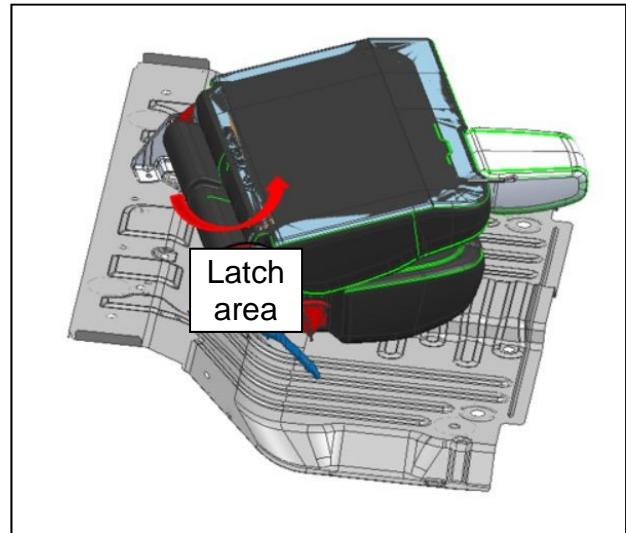

Figure 18
19. Move to the opposite side of the vehicle and pivot the rear seat forward to access the latch area (Figure 18).